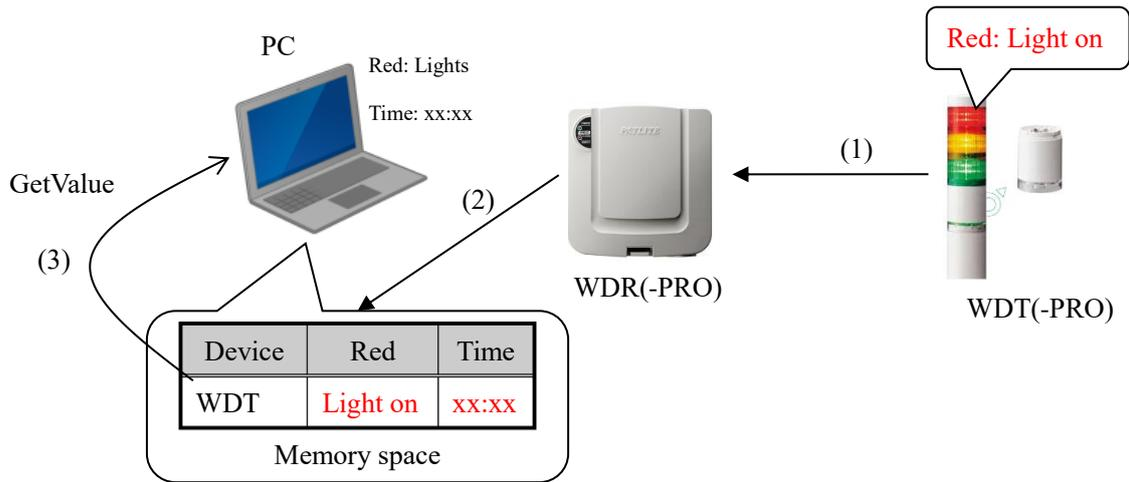

Fig. 4-3 Diagram WDR-PRO provider' Interior Behavior
Fig. 4-3 shows the internal behavior of the WDR-PRO provider. In the immediate transmission mode, WDT(-PRO) sends signal data to WDR(-PRO) at the timing when signal light information/external input information changes (1). When the reception is completed, WDR(-PRO) sends the received data to the PC and records the signal light information and the time when the PC received in the memory space in the WDR-PRO provider (2). When GetValue is executed, the WDR-PRO provider acquires and displays the signal lamp information recorded in the memory space and the reception time (3).